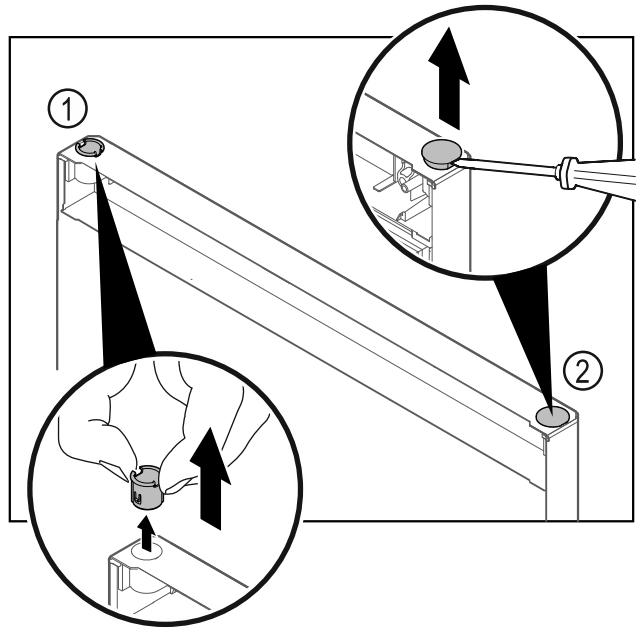

Fig. 31
- Pull out the hinge bushing Fig. 31 (1) with your fingers.
- Carefully lift the cover plug Fig. 31 (2) with a slotted screwdriver and pull it out.